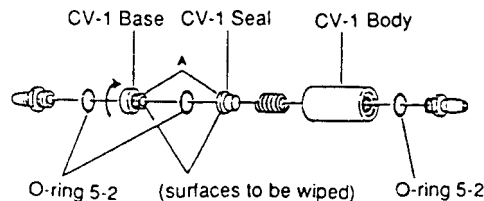

Figure 6-3-18 Checking Non-return Valve
- A. Turn CV-1 base in the direction indicated by the arrow in Figure 6-3-18.